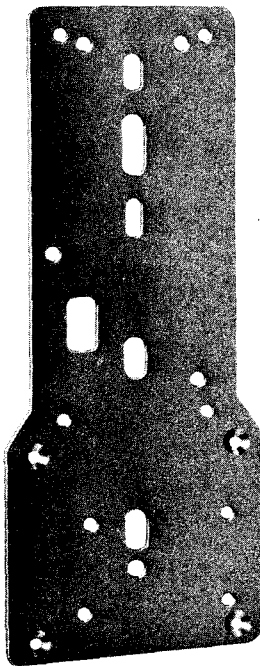

Fig. 24—1A Backplate
3.30 The 1A backplate made of sheet steel (Fig. 24), is intended for use on coin collectors equipped with aluminum backplates to reduce the possibility of breaking away the lower housing by means of a pry bar.